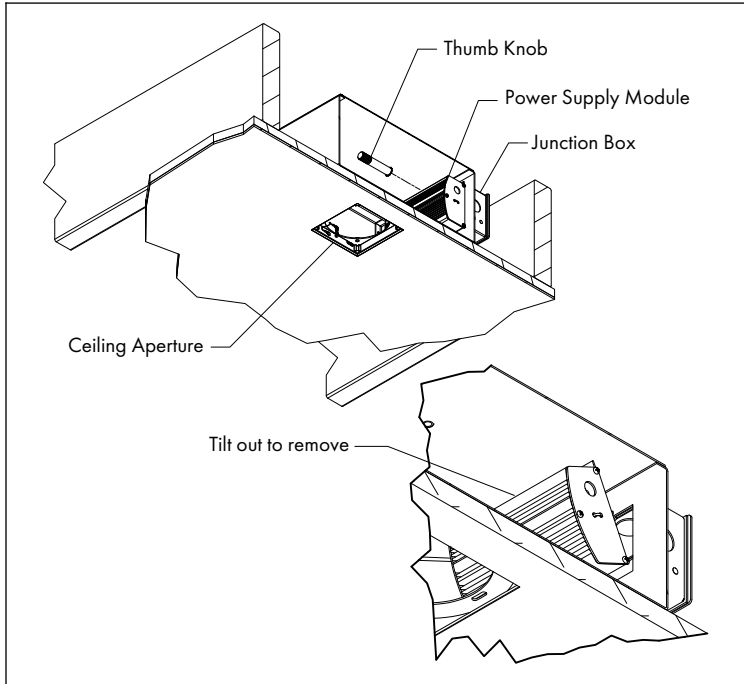

FIG 9.1 Remove Thumb Knob & Disengage Power Supply Module
STEP 1 Unscrew & remove Thumb Knob inside Housing- **FIG 9.1**.
STEP 2 Tilt & lift Power Supply Module to disengage - **FIG 9.1**.